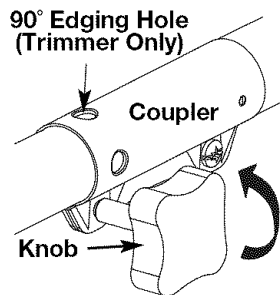
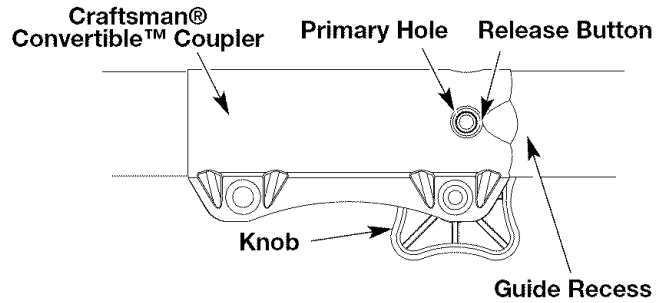
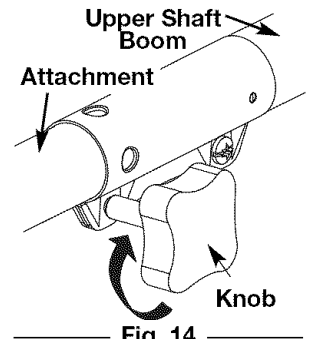

Fig. 12
Fig. 13
Fig. 14
2. Turn the knob counterclockwise to loosen coupler (Fig. 12).
3. Push in the release button (Fig. 13) and twist the shaft 90° until the release button snaps into the 90° hole (Fig. 12).
4. Turn the knob clockwise to lock the coupler (Fig. 14).
**CAUTION:** Before operating this unit, be sure that the release button is fully snapped into the primary hole (Fig. 13), and that the knob (Fig. 14) is securely tightened.